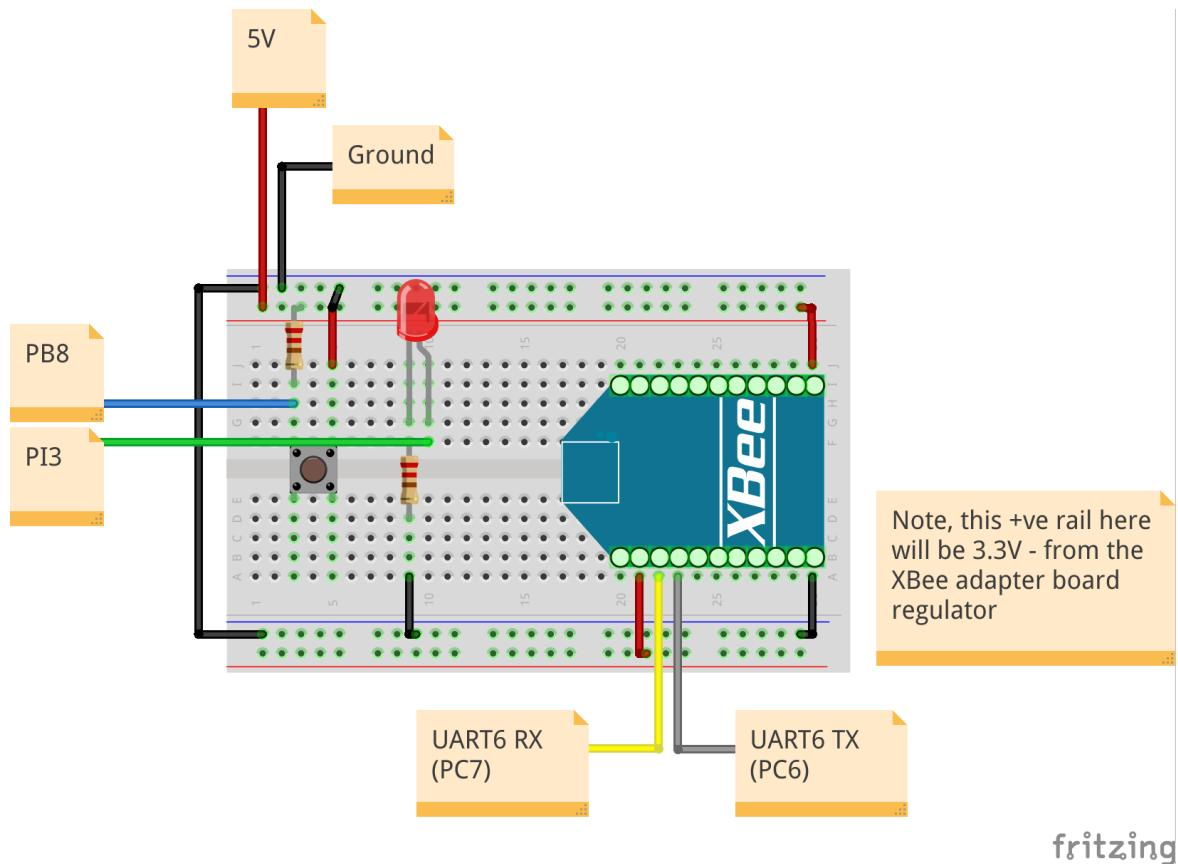

Figure 28 – The XBee coordinator to STM32F7 discovery connections
We are going to build the circuit shown in Figure 28 to connect the XBee coordinator to our STM32F7 discovery board. This will allow us to send remote query (IS) commands to our XBee sensor nodes by pressing a pushbutton connected to the STM32F7 discovery board.